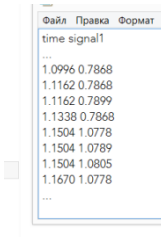

Fig.3. Example of repeated X values in the experimental data, where use of smoothing method #3 is strongly recommended.
Step 2. Select one of the data smoothing methods, if necessary. It is advised to select one of them to minimize error and noise in signal and signal's derivative calculation. It is strongly recommended to use smoothing method #3, if your original experimental data contains noise some X -values being fully identical to each other, see Fig. 3.